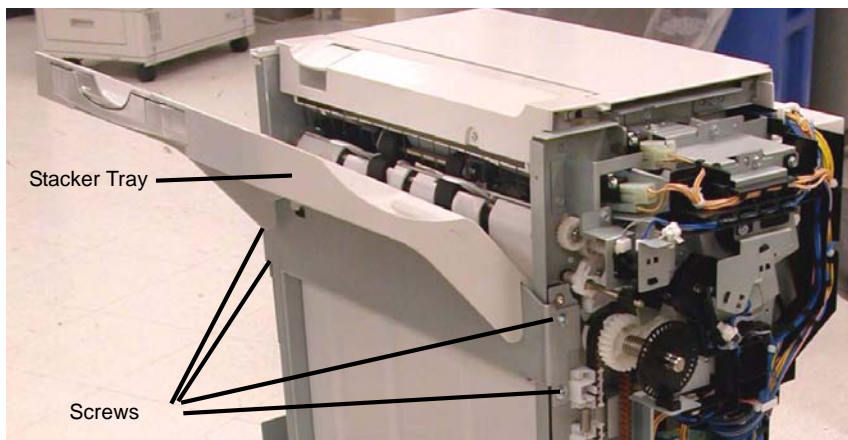

Figure 1 Removing the Stacker Tray
3. Remove the Stacker Tray (Figure 1).